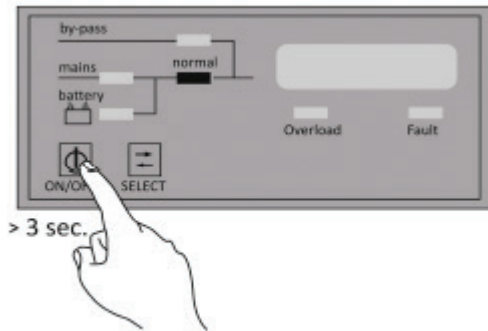

Figure 3.1
Step 1: Switch on the Input CB first and then the Battery CB (when available). Press and hold the ON/OFF button until a warning beep sound, meanwhile observe the normal LED is on (Figure 3.1).